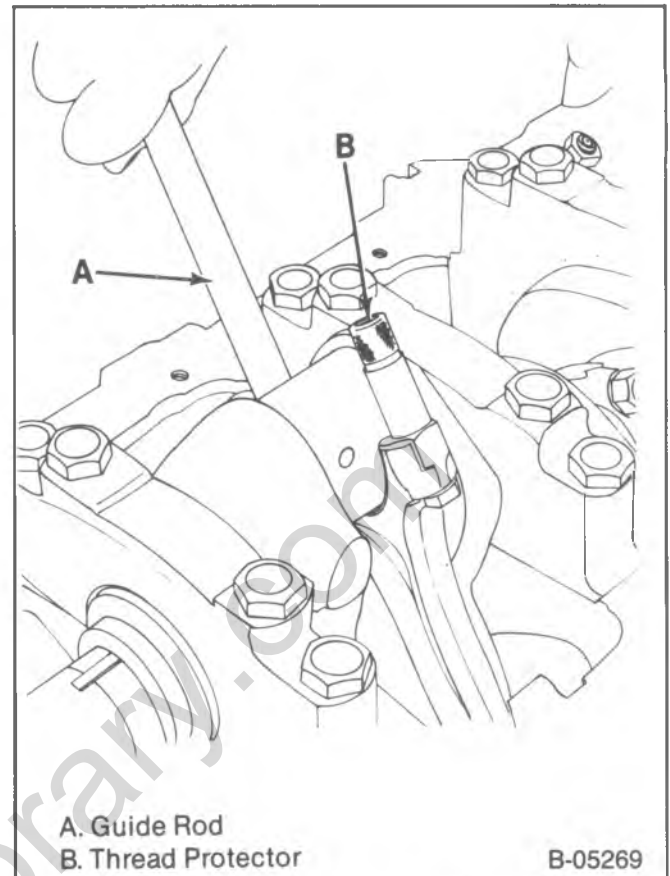
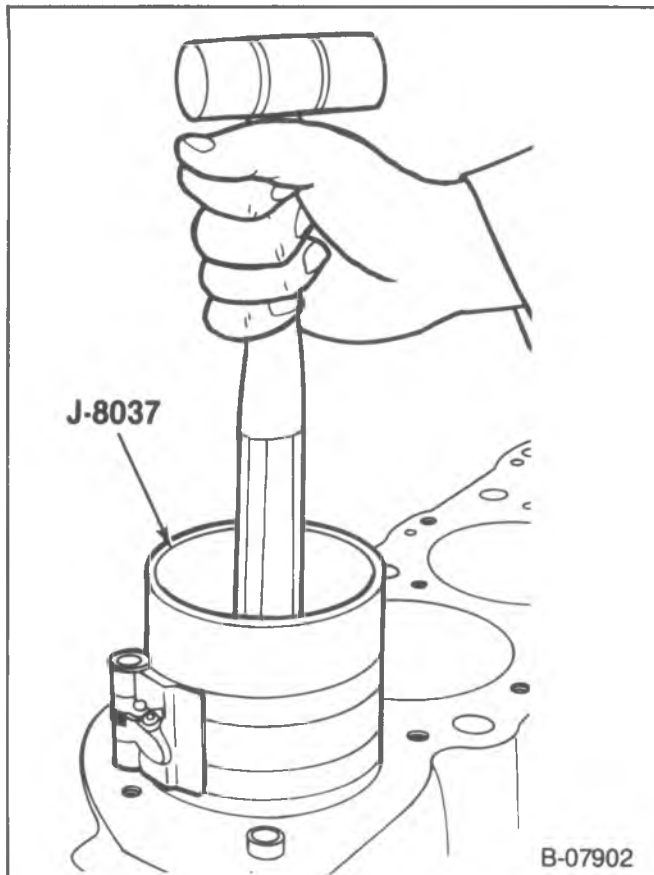

Figure 28—Replacing the Piston and Connecting Rod
Figure 30—Installing the Piston
↔ Remove or Disconnect (Figure 28)
- Attach J-5239 to the connecting rod bolts (figure 28).
↔ Install or Connect (Figures 28 through 31)
- Without disturbing the ring end gap location, install J-8037 over the piston (figure 30).
- Place the piston in its matching bore. The connecting rod bearing tang slots must be on the side opposite the camshaft. Using light blows with a hammer handle, tap the piston down into its bore (figure 30). At the same time, from beneath the vehicle guide the connecting rod to the crankpin with J-5239 (figure 28). Hold the ring compressor against the block until all rings have entered the cylinder bore.